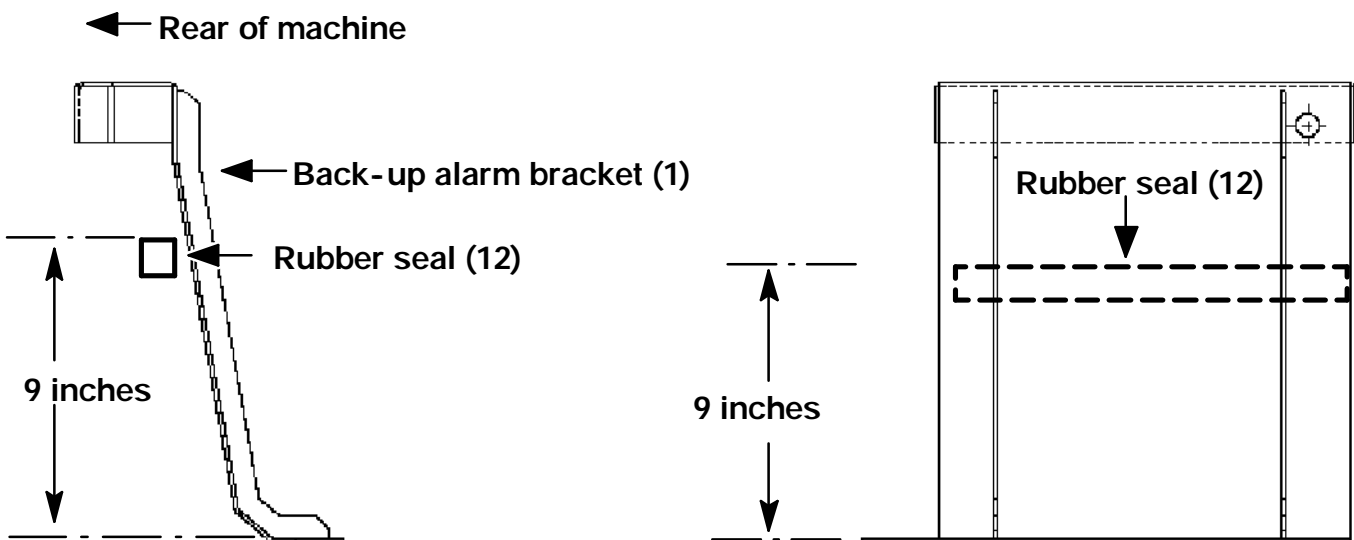

FIG. 1 - Back-up Alarm Mount Bracket (seal location)
(Refer to FIG. 1, 2, and 4)
9. Use the dimensions in FIG. 1 to install the rubber seal (12) on the back of the mount bracket (1). (Refer to FIG. 1)
10. Install the shorter vinyl duct (14) on the vertical edge of the mount bracket (1). Open the vinyl duct up with a screw driver and install the new harness (13) into the channel.